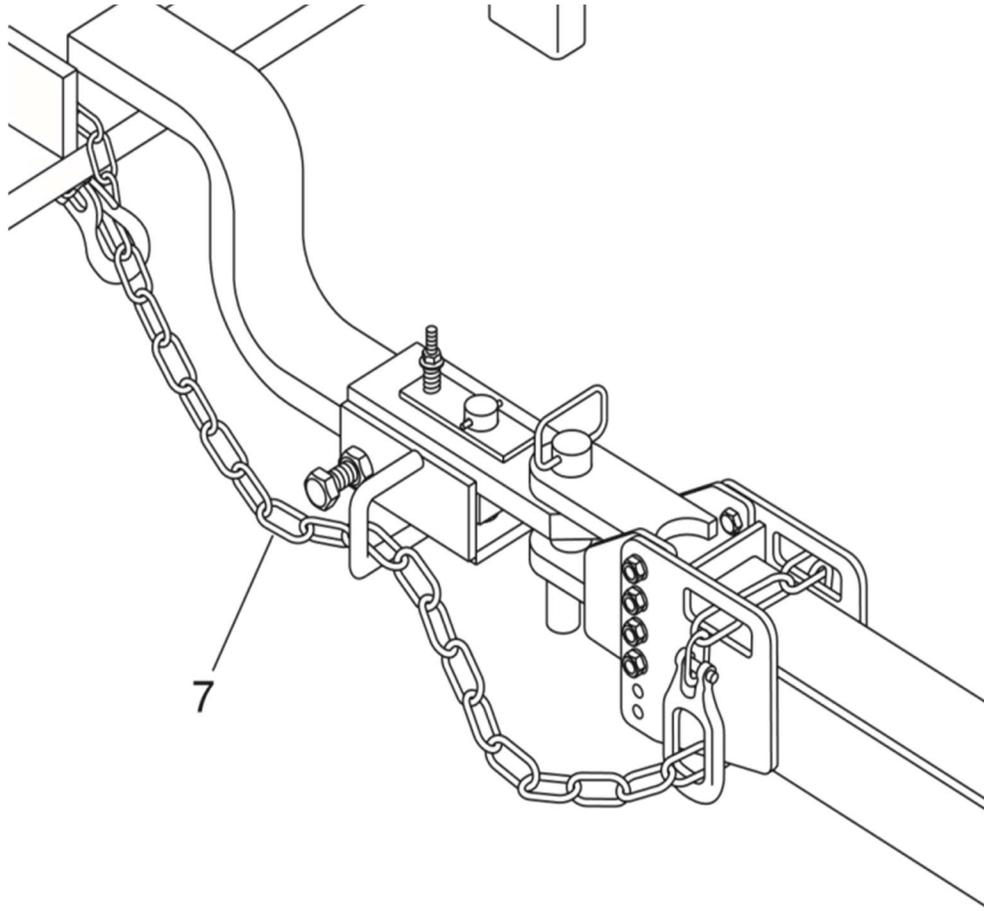

Figure 18 : Safety chain
CAUTION: Attach a safety chain (item 7, FIGURE 18) with a minimum capacity of 9071 kg (20 000 lbs) for transport.
- Install the safety chain (item 16) between the tractor frame and the Forage Harvester. Refer to Figure 18 : Safety chain on page Figure 18 : *Safety chain* for more information on how to install the safety chain.